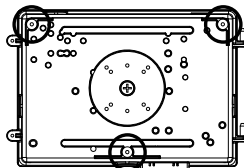

Figure 12
7. Drill through the three (3) corner mounting holes on the back plate. (see Fig. 12)